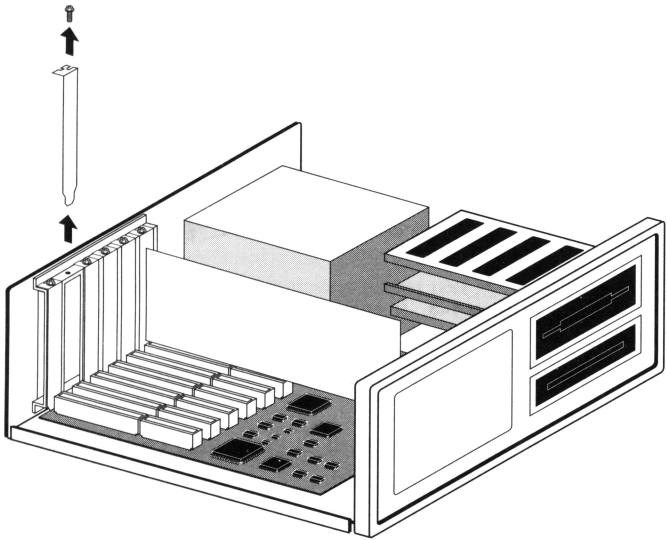

Figure 1-3. Removing the Backplate
3. **Remove the expansion slot's backplate, as shown in Figure 1-3.**